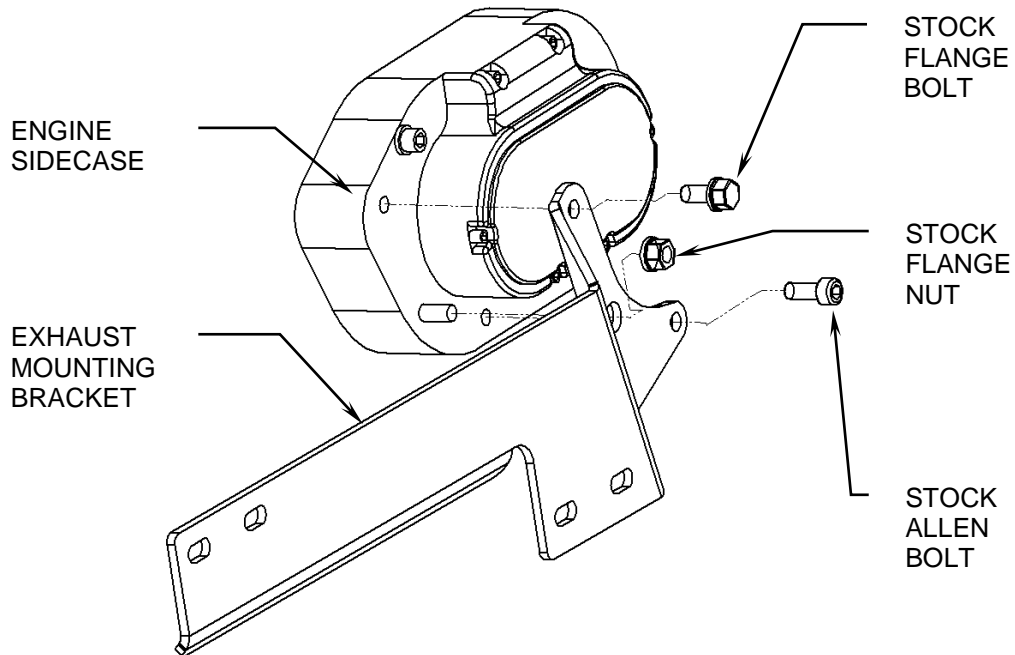

FIGURE 1
4. Remove allen bolt, flange nut, and hex bolt from case and install supplied exhaust mount to motorcycle see Figure 1, but **DO NOT TIGHTEN**.